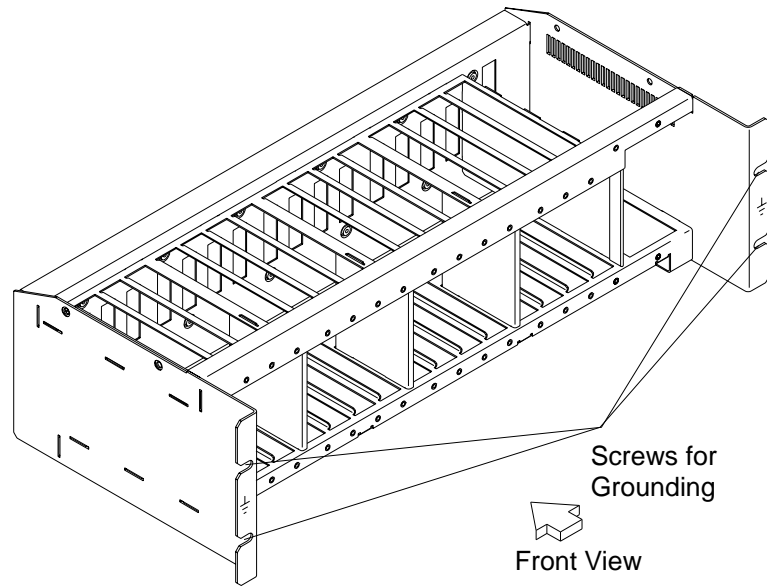

Figure 0-6. LCB Grounding Via Screws
- Check that electrical continuity is assured between the LCB housing and the controller expansion frame, if LCBs are present. This operation must be performed before any network connection (see Figure 0-6 on page xxv).